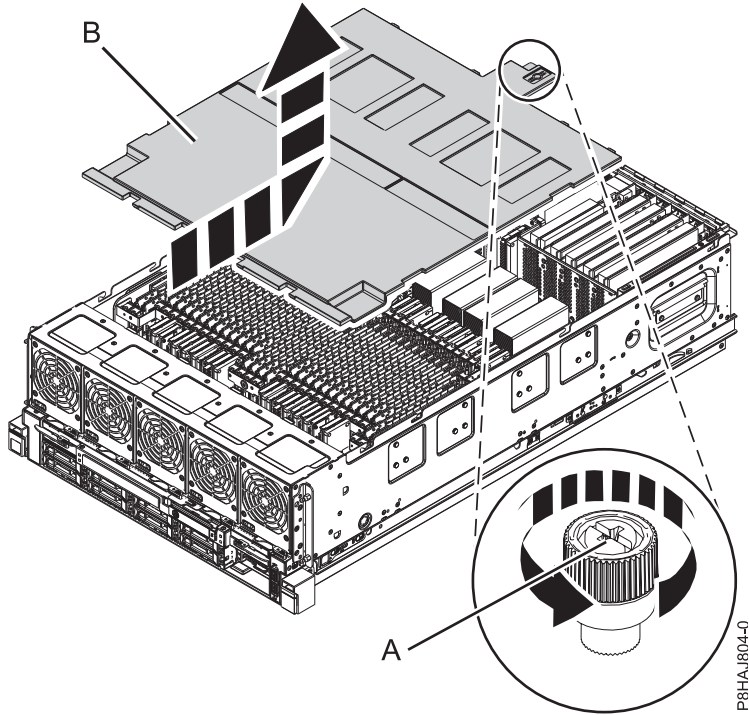

Figure 31. Removing the safety cover
2. Loosen the thumbscrew (A) located at the rear of the cover, by turning it in the direction shown in Figure 31 on page 44.
3. Slide the safety cover (B) toward the rear of the system. When the front of the cover has cleared the upper frame ledge, lift the cover up and off the system.